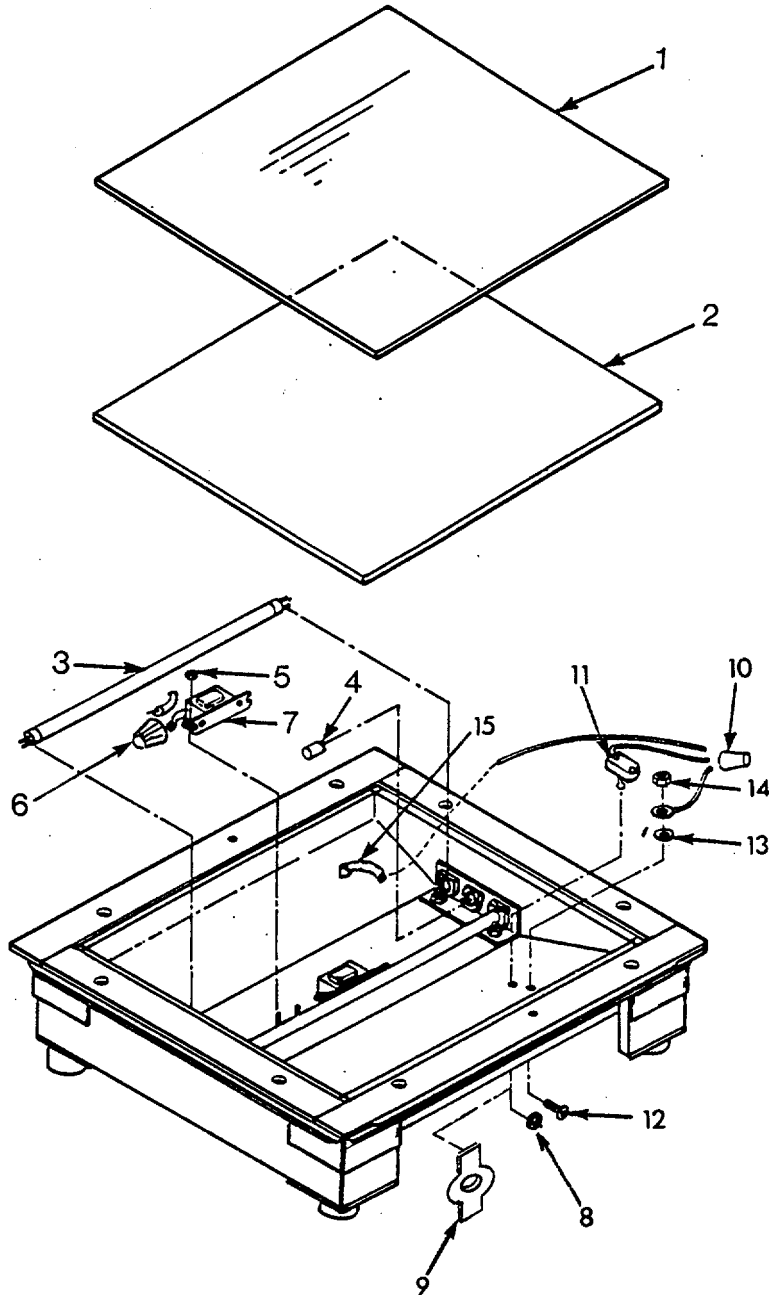

Figure 4-5. Light Table
4-14. **LIGHT TABLE ASSEMBLY.** - Continuedc. Repair. (See Figure 4-5.)
- (10) Measure and drill light table shipping bracket mounting holes (1).
- (11) Tap drilled holes.
- (12) Install light table power cord (15). (See Figure 4-5.)